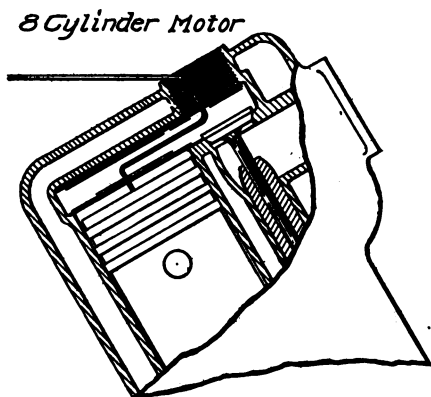

Fig. 33. Tool Made from Wire for Indicating Dead Center in V-Type Motors
**Simple Dead Center Indicator.** In a great deal of engine work, it is necessary to know when the pistons in the various cylinders are on dead center, either the upper or the lower center. For this purpose a form of indicator which is simple, easy to use, and accurate, is needed. A good one is shown in Fig. 33. This consists of nothing more than a  $\frac{1}{8}$ -inch steel wire, or narrow steel strip, bent to the form shown. It is indicated as setting into one cylinder of an eight-cylinder V-type motor, but with slightly more bending it is applicable to any form of V-type or vertical cylinder motor. The bent end is inserted, and the engine gradually turned by means of the crank until the tip end of the wire extending from the cylinder stops moving. This point is the upper dead center, and the lower center is found similarly. The advantage of the shape shown and of the long